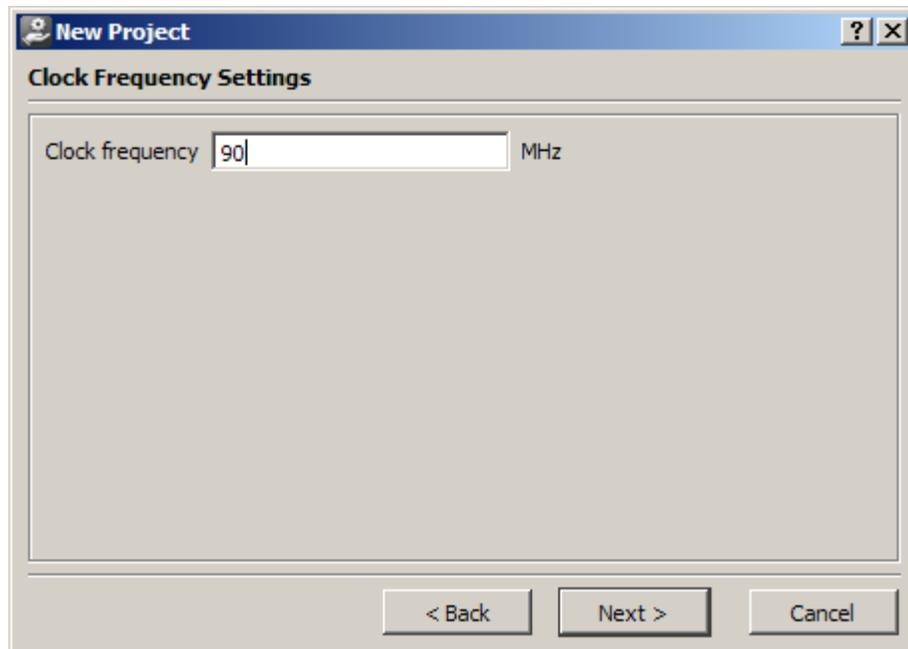

Figure 10. New Project - Clock Frequency
- Press the Next button again to bring up the Clock Frequency dialog. Set the clock frequency to 90 MHz (see Figure 10).